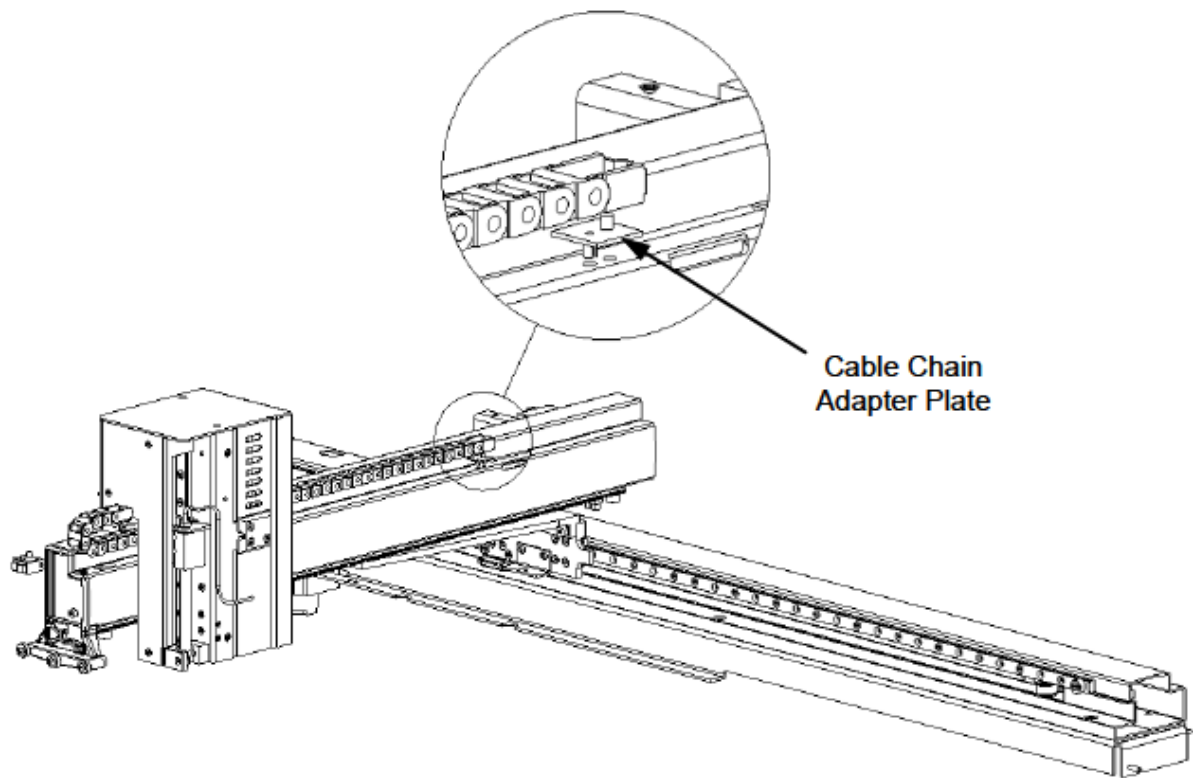

Figure U-5: The Cable Chain Adapter Plate
4. Remove the Cable Chain Adapter Plate (Figure U-5).